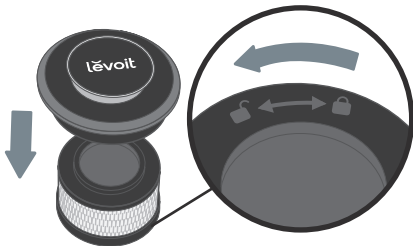

Figure 3.5
2. Rotate the pre-filter counterclockwise to remove it from the housing [Figure 3.5].